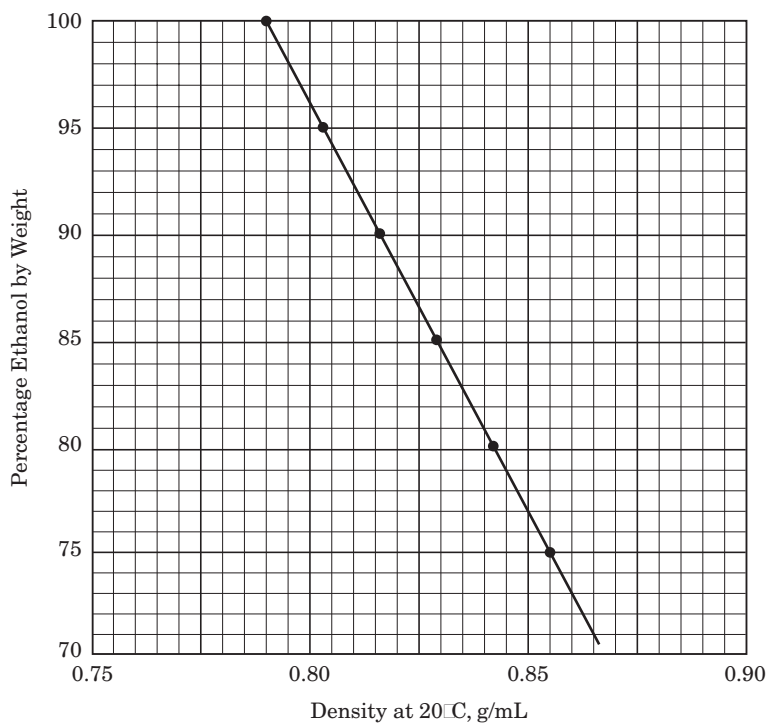

Figure 33.4
5. Gradually turn up the heat until the liquid in the distillation flask begins to boil. As the vapors rise in the column, you will see liquid condensing; this ring of condensate will rise in the column. Control the setting on the Variac so that the condensate rises slowly through the column and at an even rate. (If the rate is too fast, the column will flood.) The temperature readings at the distillation head will rise; when the temperature reaches 78°C , begin to collect the liquid that distills (1). Discard any liquid distilling before this temperature is reached.
6. Collect liquid distilling between 78 and 90°C . Collect 10 – 15 mL of distillate (2).
8. Weigh a 50 -mL beaker to the nearest 0.001 g (3). With a 10 -mL volumetric pipet, transfer 10 mL of distillate to the beaker ($V_{\text{distillate}}$). Do not pipet with your mouth; use a Spectroline pipet filler. Reweigh the beaker and liquid (5), and by difference, determine the weight of the distillate (6). Determine the density (7), and by referring to Figure 33.4, determine the percent composition of the ethanol (8).